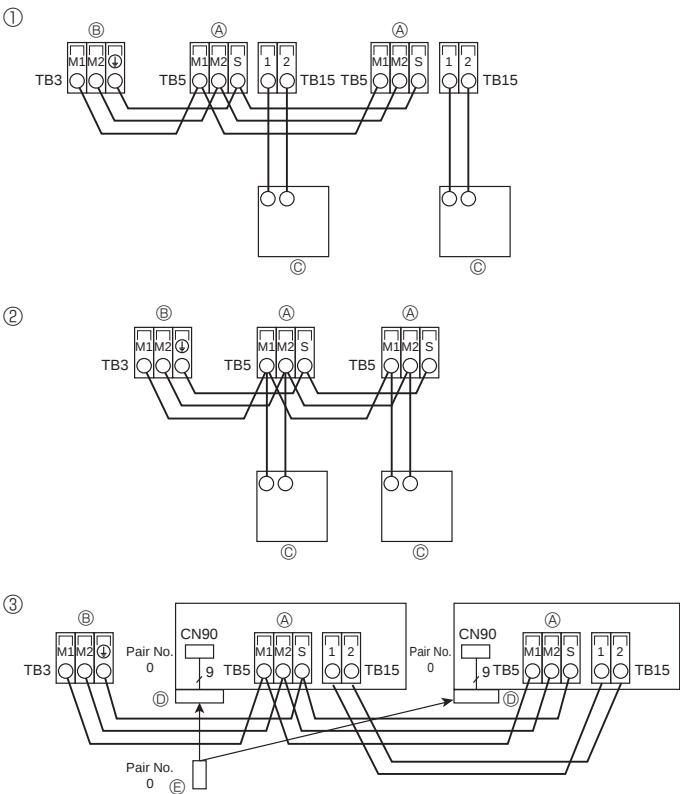

Fig. 6-3
6.3. Connecting remote controller, indoor and outdoor transmission cables (Fig. 6-3)